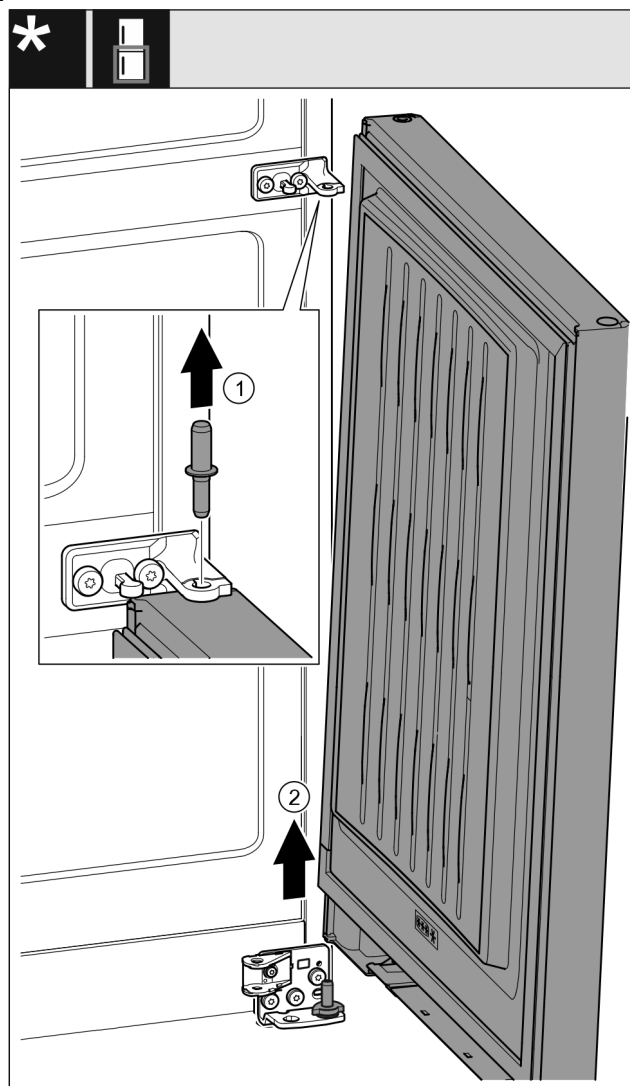

Fig. 22 With closing damper\*
- Pull out the bolt Fig. 22 (1) upwards.\*
- Swing out the door Fig. 22 (2), pull it upwards and set it aside.\*